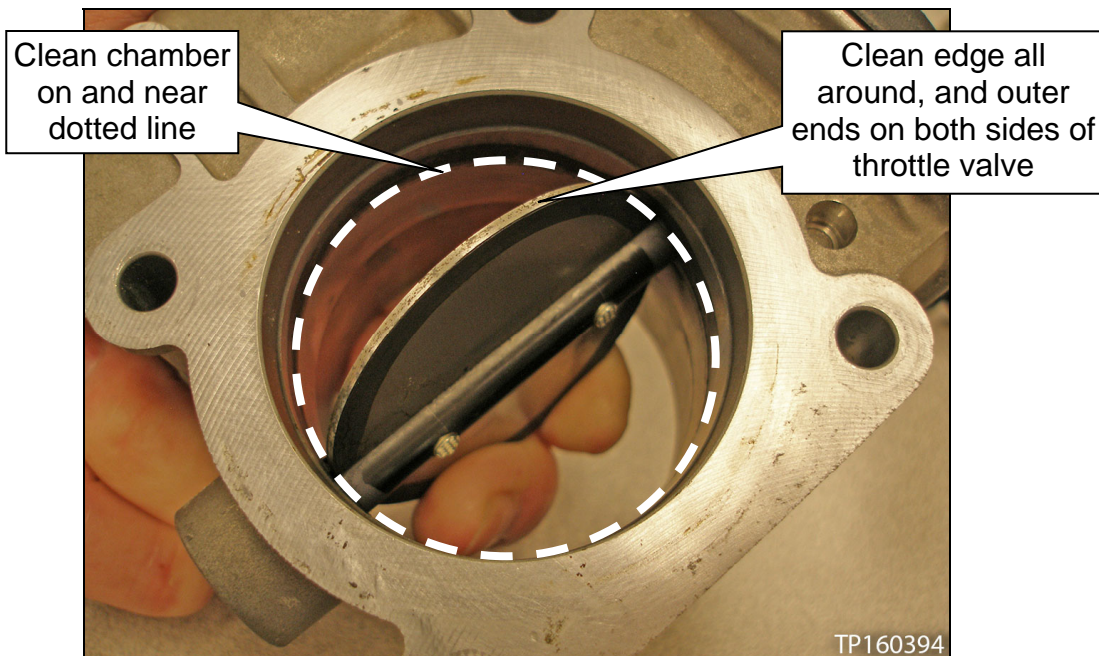

Figure 5a
- Clean off the deposits from the edges and outer ends of the throttle valve (see Figure 5a).